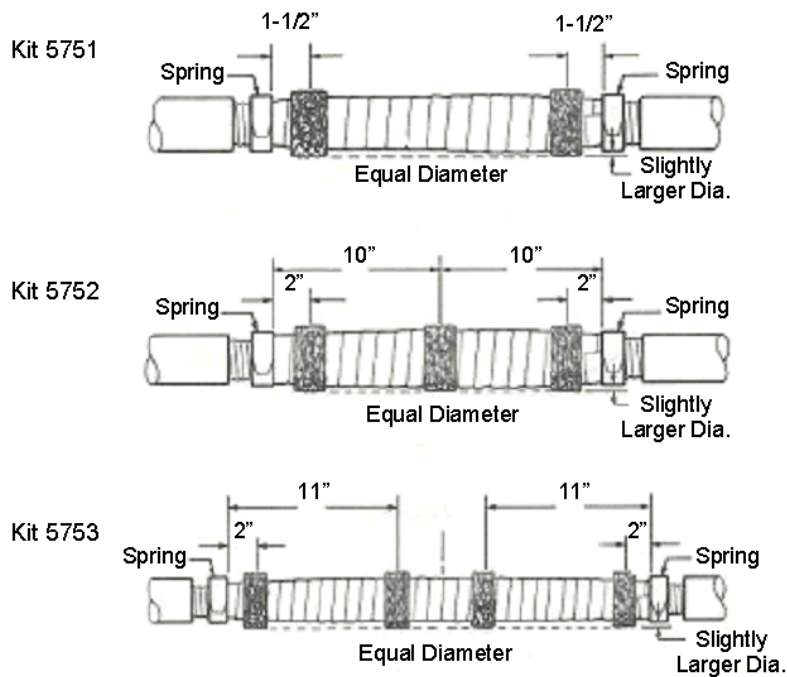

Figure 7
2. Wrap spacer web collars around splice at locations shown: Build all of them to an equal diameter slightly greater than the diameter of the springs previously wrapped with Scotch® Super 33+™ Tape. Wrap collars to desired diameter plus 1/4 wrap. Cut off excess. DO NOT STRETCH WHEN APPLYING. (Figure 7)